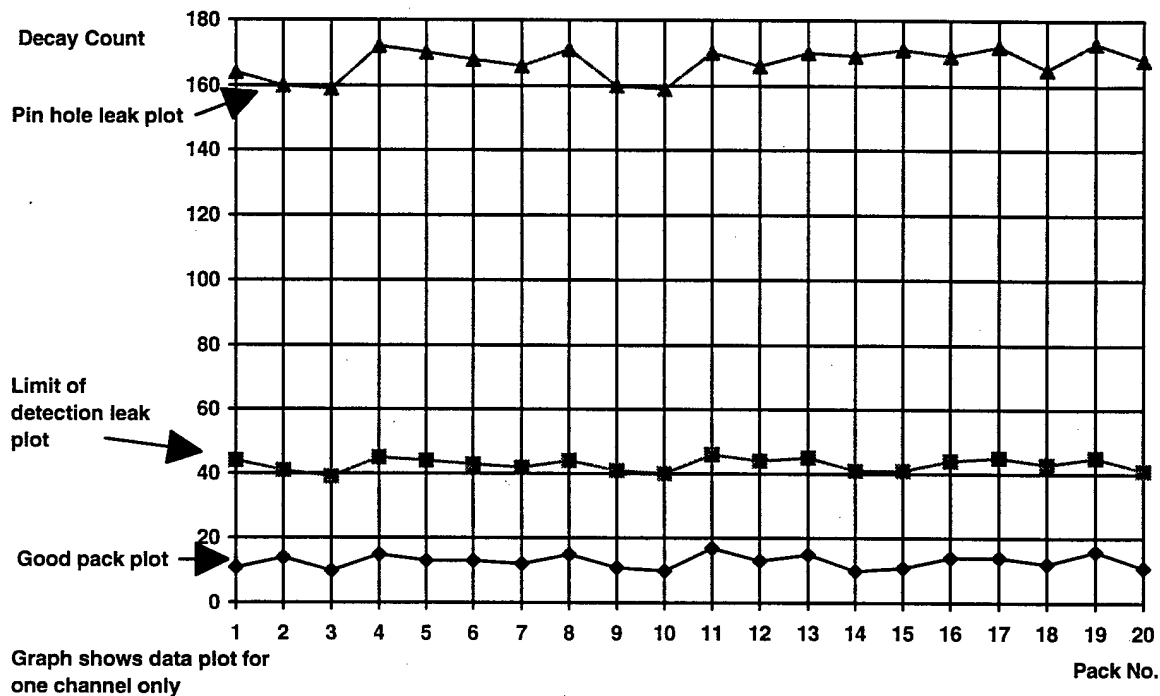

Figure 4.1 Graph of Decay Count by Pack Number
15. Plot these results on a graph of decay count by pack number (see fig 4.1 for an example). This will give an indication of where to set the decay limit. In the example shown, the decay for known good packs is between 10 and 20 counts: therefore a decay limit of approximately 30 should ensure that all good packs are passed, and that any packs with a decay of greater than 30 counts are rejected, and are reasonably likely to be leaking.
If no particular test time has been specified, generally a decay test time of a few seconds is normally sufficient to allow the instrument to identify a leaking pack. The test time should be such that the decay readings of known good and known leaking packs (those fitted with a known hole representing the limit of detection) are consistently separated by a factor of two as shown in fig 4.1. Once this operating point has been achieved, there is little advantage in using longer test times as the ratio of decay readings between good and bad packs may not increase